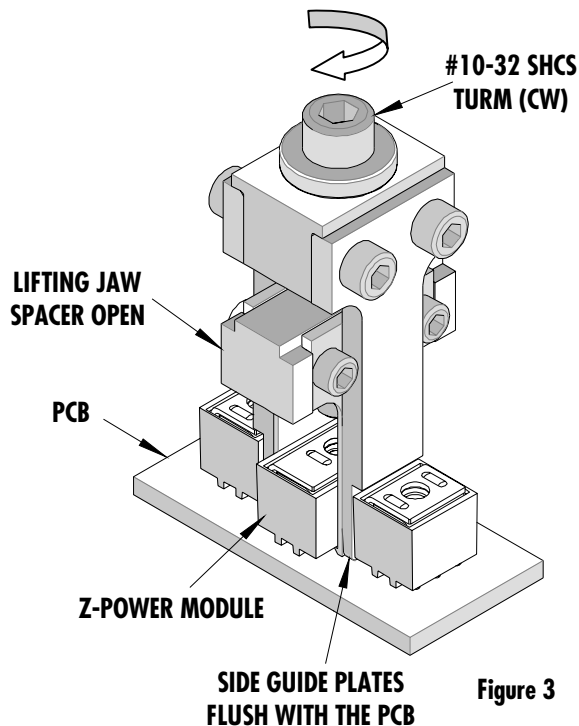

Figure 3
- Turn the #10-32 SHCS clockwise (CW) until the extraction tool side guide plates contact the printed circuit board. Continue turning the #10-32 SHCS so the lifting jaw spacer is parallel to the power module. See Figure 3.